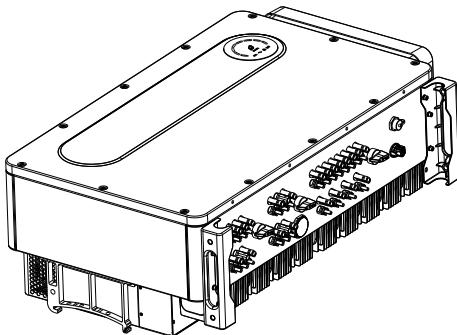

Fig 5.8
- 1> As shown in Fig 5.8, 4-6 persons are required to lift the inverter out of the package and move it to the installation position.